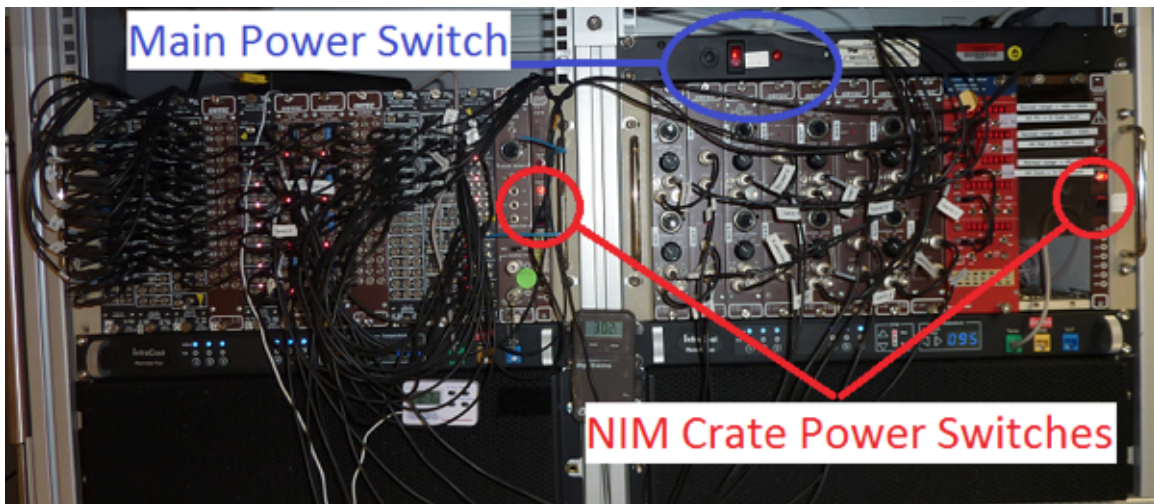

Figure 17. Master Power Switch.
8. Turn off the master power switch above the middle NIM rack (blue circle in *Figure 17*).
1. Motion control should be set during initial setup and further changes should not be necessary. Motion control setup can be accessed by selecting **Motion > Setup** from the IMS panel menu (Figure 17).
Measure the background periodically, whenever the ship changes latitude by more than 1-2 degrees and at least twice an expedition. A data file is generated for each NaI detector and measurement position. The titanium boat with an empty core liner are no longer used in the background measurements as of Exp. 368X. The background measurement is taken for a much longer period of time for a good statistical spectrum. Typical core measurement time is 300 seconds per position; the background is normally done for 21,000 seconds (almost 6 hours for a single measurement position). On the main (left-hand) IMS panel, go to **Instruments > NGR: Background** (*Figure 17*) to start a measurement.